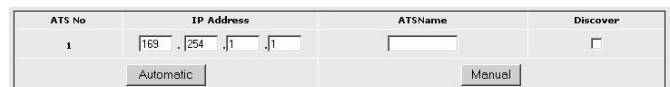
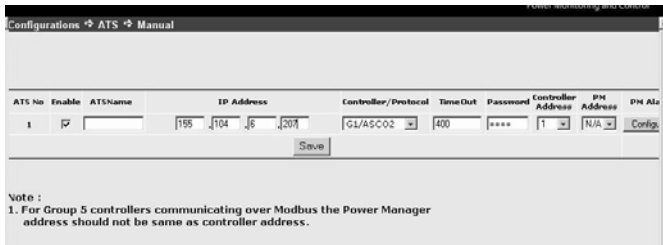

Figure 12: Single ATS screen
Figure 16: Auto Discover Results
You must know the IP address of the Connectivity Module (CM) that corresponds with the ATS (and Power Manager, if present) in the network. The ATS Remote Annunciator has an *auto discovery* feature for a scenario in which one ATS is connected to one CM. The user has to input the IP address details of the CM to which the ATS is connected. After performing the auto discovery, the information about the discovered ATS is displayed on the web interface. See Figure 12.
- To manually configure the ATS click **Manual** on the Single ATS screen (Figure 12). See Figure 16.